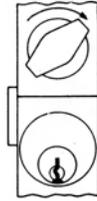

Figure 3-2
- Turn the thumb turn clockwise to the stop position. Observe the latch being retracted to unlock the door (**See Figure 3-2**). The lock will lock automatically when the thumb turn is released.